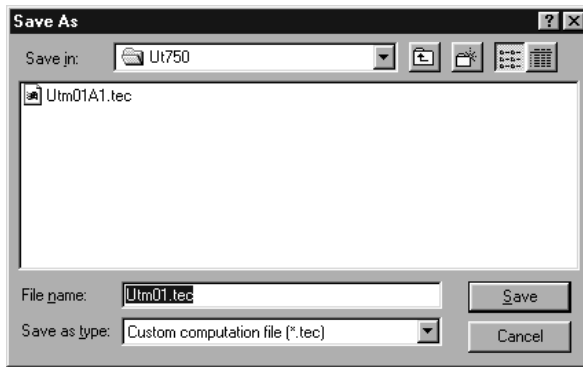

Figure 7.3.3 [Save As...] Dialog Box
- (1) From the tool menus, click <File>, then <Save As...>. The [Save As...] dialog box (Figure 7.3.3) appears.
- (2) Type a name in the File Name text box, and then click the <Save> button. The file is saved as a user file (*****.tec).